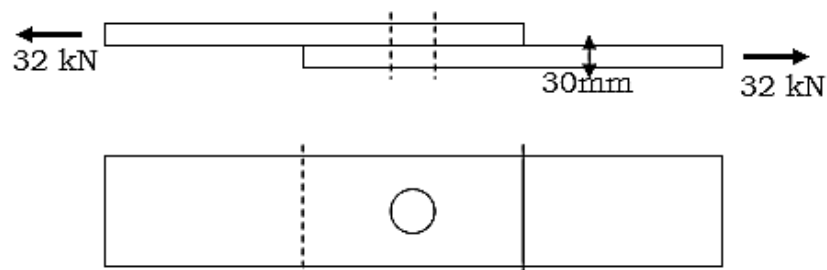

Figure 2(b)
- (b) In Figure 2(b), two steel plates are connected using a rivet with a diameter of 20 mm. If the tension force subjected was 32 kN, calculate: